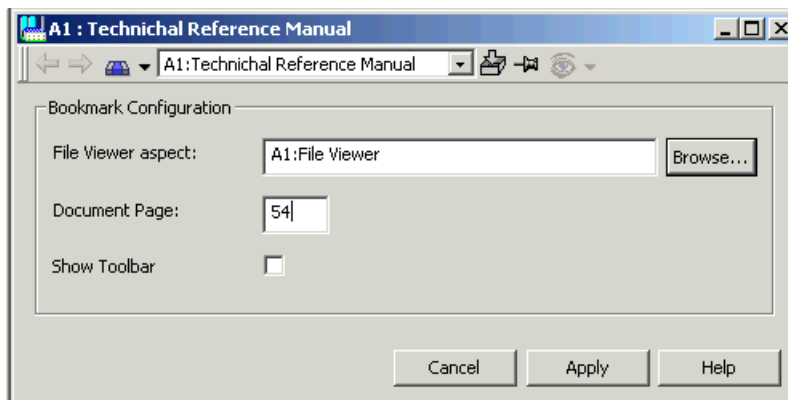
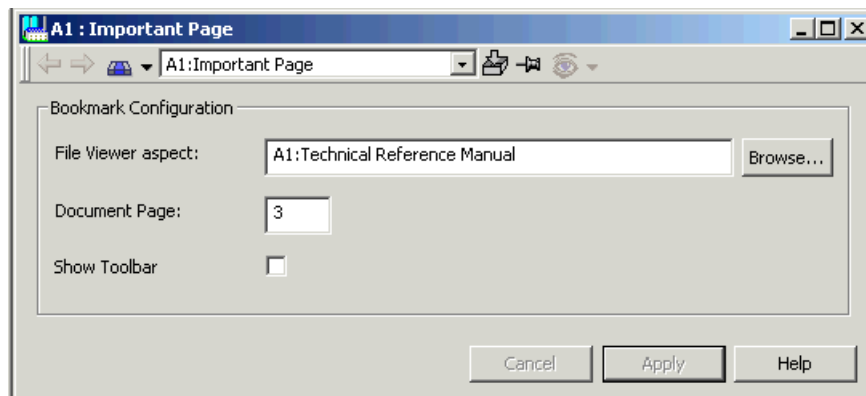

Figure 237. General Bookmark - Important Page
Figure 238. An Important Page in a Technical Reference Manual
2. Give it a proper name that identifies the page in the document, you want to enter, see Figure 237 and Figure 238.